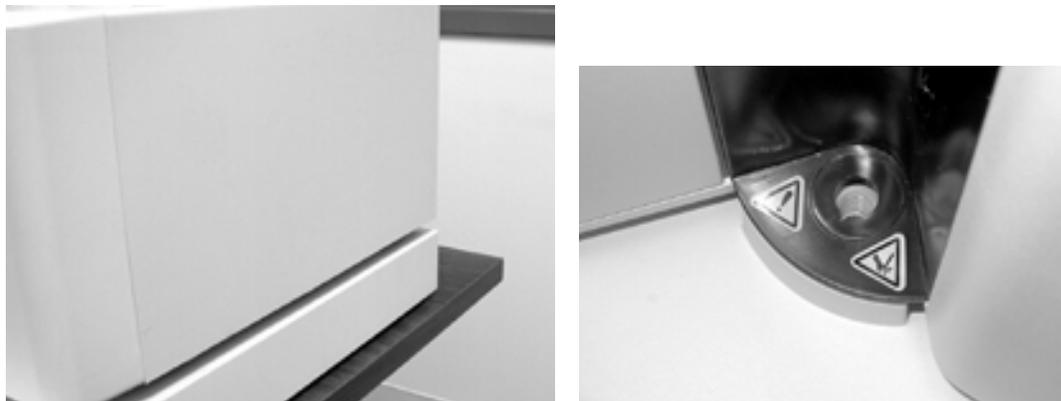

Fig. 8. Reader aligned on top of microplate platform.
4. Make sure that the power switch to the microplate platform is off, and connect the communications cable to the microplate platform's communication cable port. Attach a power cord to the power connector of the microplate platform, but do not plug it into an outlet yet until the array reader and microplate platform are aligned (Figure 8).